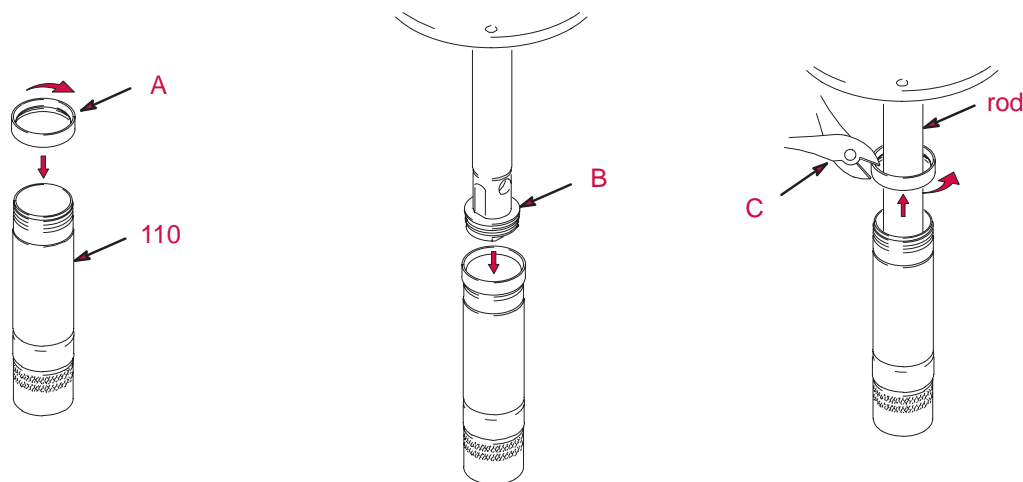

Fig. 5
1. Weld the bracket (see Fig.5) in place per recommended configuration for mounting the vent valve . Paint the bracket if desired.
17. Place the piston ball (103) in the displacement rod (29).
18. Clean the threads of the piston/valve seat (109), Apply Loctite® to the threads, and thread the assembly from Step 16 onto the displacement rod (29).
19. Clamp the flats of the piston/valve seat (109) in a vise, and torque the displacement rod (29) to the piston valve seat to 45 to 55 ft-lb (61 to 75 N.m).
20. Clamp the air motor base (28) in a vise horizontally by closing the vise jaws on the flange
21. Thread piston assembly tool (A) (included in repair kit 238751) onto the threads of the displacement pump cylinder (110). See Fig. 5.
22. Insert the piston assembly (B) into the displacement pump cylinder.
23. Unscrew the piston assembly tool from the displacement pump cylinder. Clip the piston assembly tool with a diagonal cutter (C), and discard it.